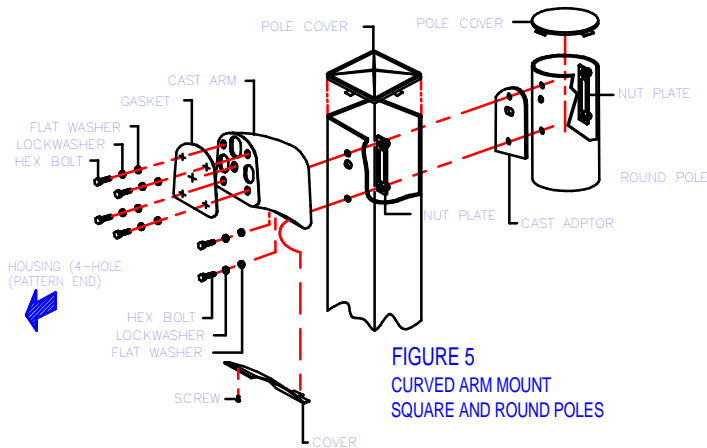

FIGURE 5
J. LUMINAIRE INSTALLATION TO CURVE ARM (FIGURE 5)